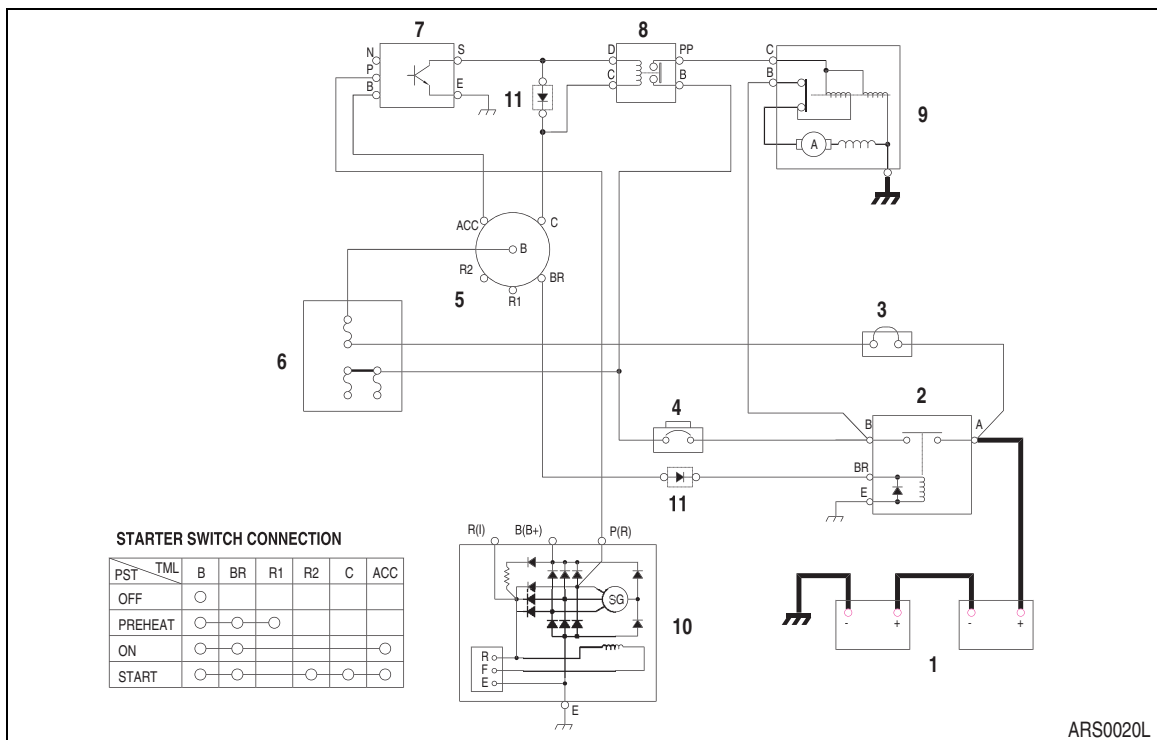

Figure 2 STARTER CIRCUIT (1) - WHILE STARTING
When the starter switch is turned to the start position, the "S" and "E" terminals of the starter controller (7) are connected. At this time the contacts in the starter relay (8) are closed by the current flow from the battery (1, Figure 2) →fusible link (3) →"B" terminal of the starter switch (5) →"C" terminal of the starter switch (5) →"C" terminal of the starter relay (8) →"D" terminal of starter relay (8) →"S" terminal of starter controller (7) →"E" terminal of the starter controller (7) →ground.
The current flows from the battery (1) →"A" terminal of the battery relay (2) →"B" terminal of the battery relay (2, Figure 2) →"B" terminal of the starter (9). The starter motor is rotated and the engine is started.